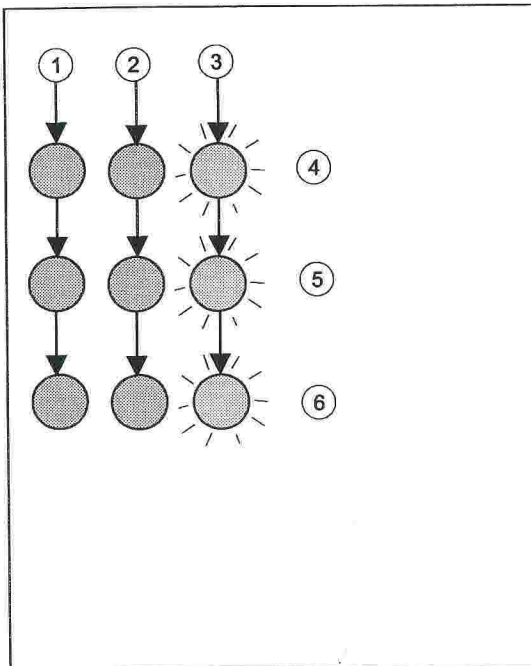

Abbildung 5-1 Mother board ST 81-02
Check LEDs ① and ② (see fig. 5-1).
Check LEDs ① (see fig. 5-1).